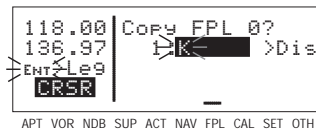

Figure 4-97
4. Use the right inner knob to select the first character of the departure waypoint identifier (figure 4-97). If you have set the default first waypoint character to **K** on the SET 5 page, you will just need one turn clockwise (see section 4.4.2, "Data Entry")